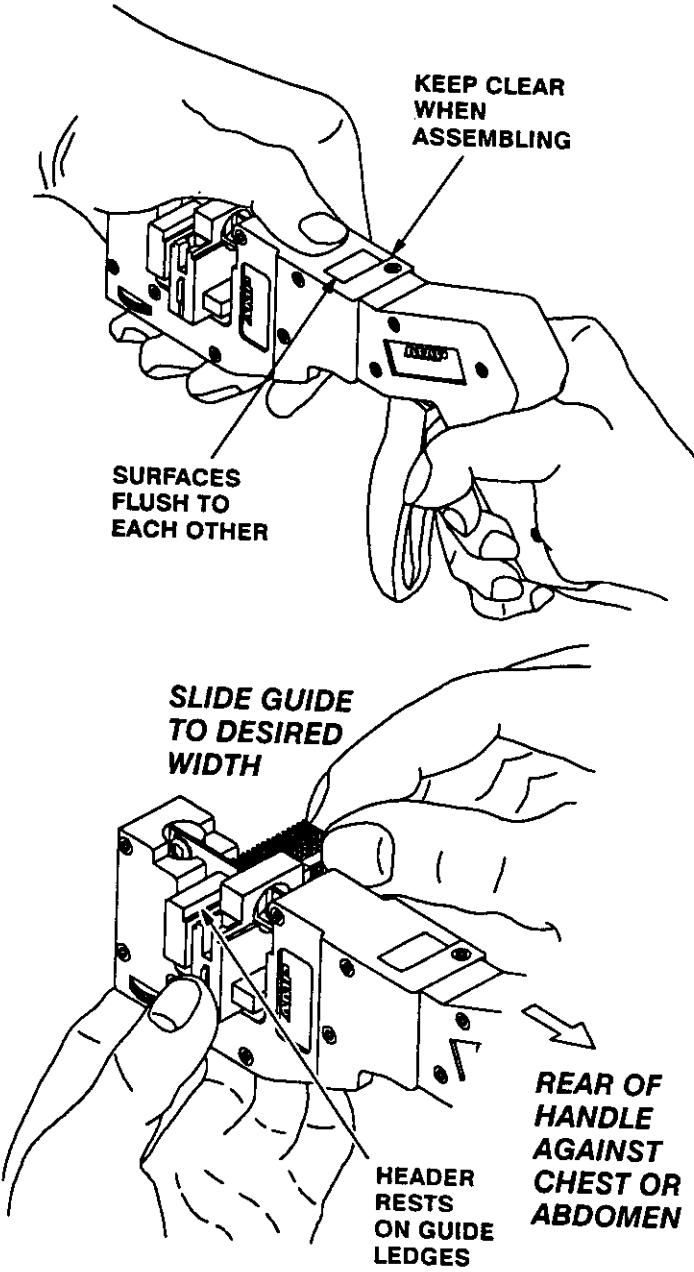

Fig. 2
1. Remove handle and head from case. Hold handle in right hand as you would to operate it; but hold around grip only, and not around trigger (See Figure 2).
### B. Adjust For Header Width (Figure 2)